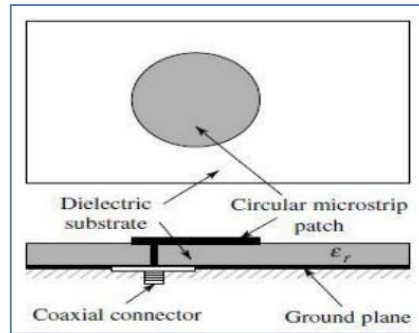

Figure 11.2: Circular patch antenna
1. Perform a frequency sweep from 2.3 GHz to 2.5 GHz and analyze the bandwidth of a circular patch antenna as shown in the figure 11.2. Calculate the -10 dB and -3 dB bandwidths.